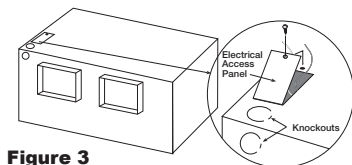

Figure 3
2. Remove either top or side wiring knockout, depending on wiring direction, by bending it back and forth to break tabs, shown in Figure 3.